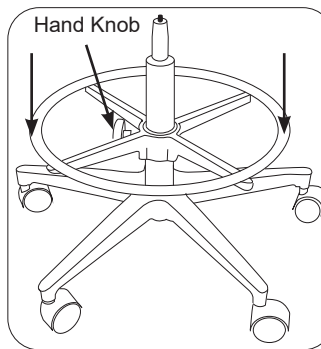

Figure 3
5. If a foot ring is included, loosen the hand knob, and slide the ring over the cylinder. Tighten knob at desired height (Figure 3)